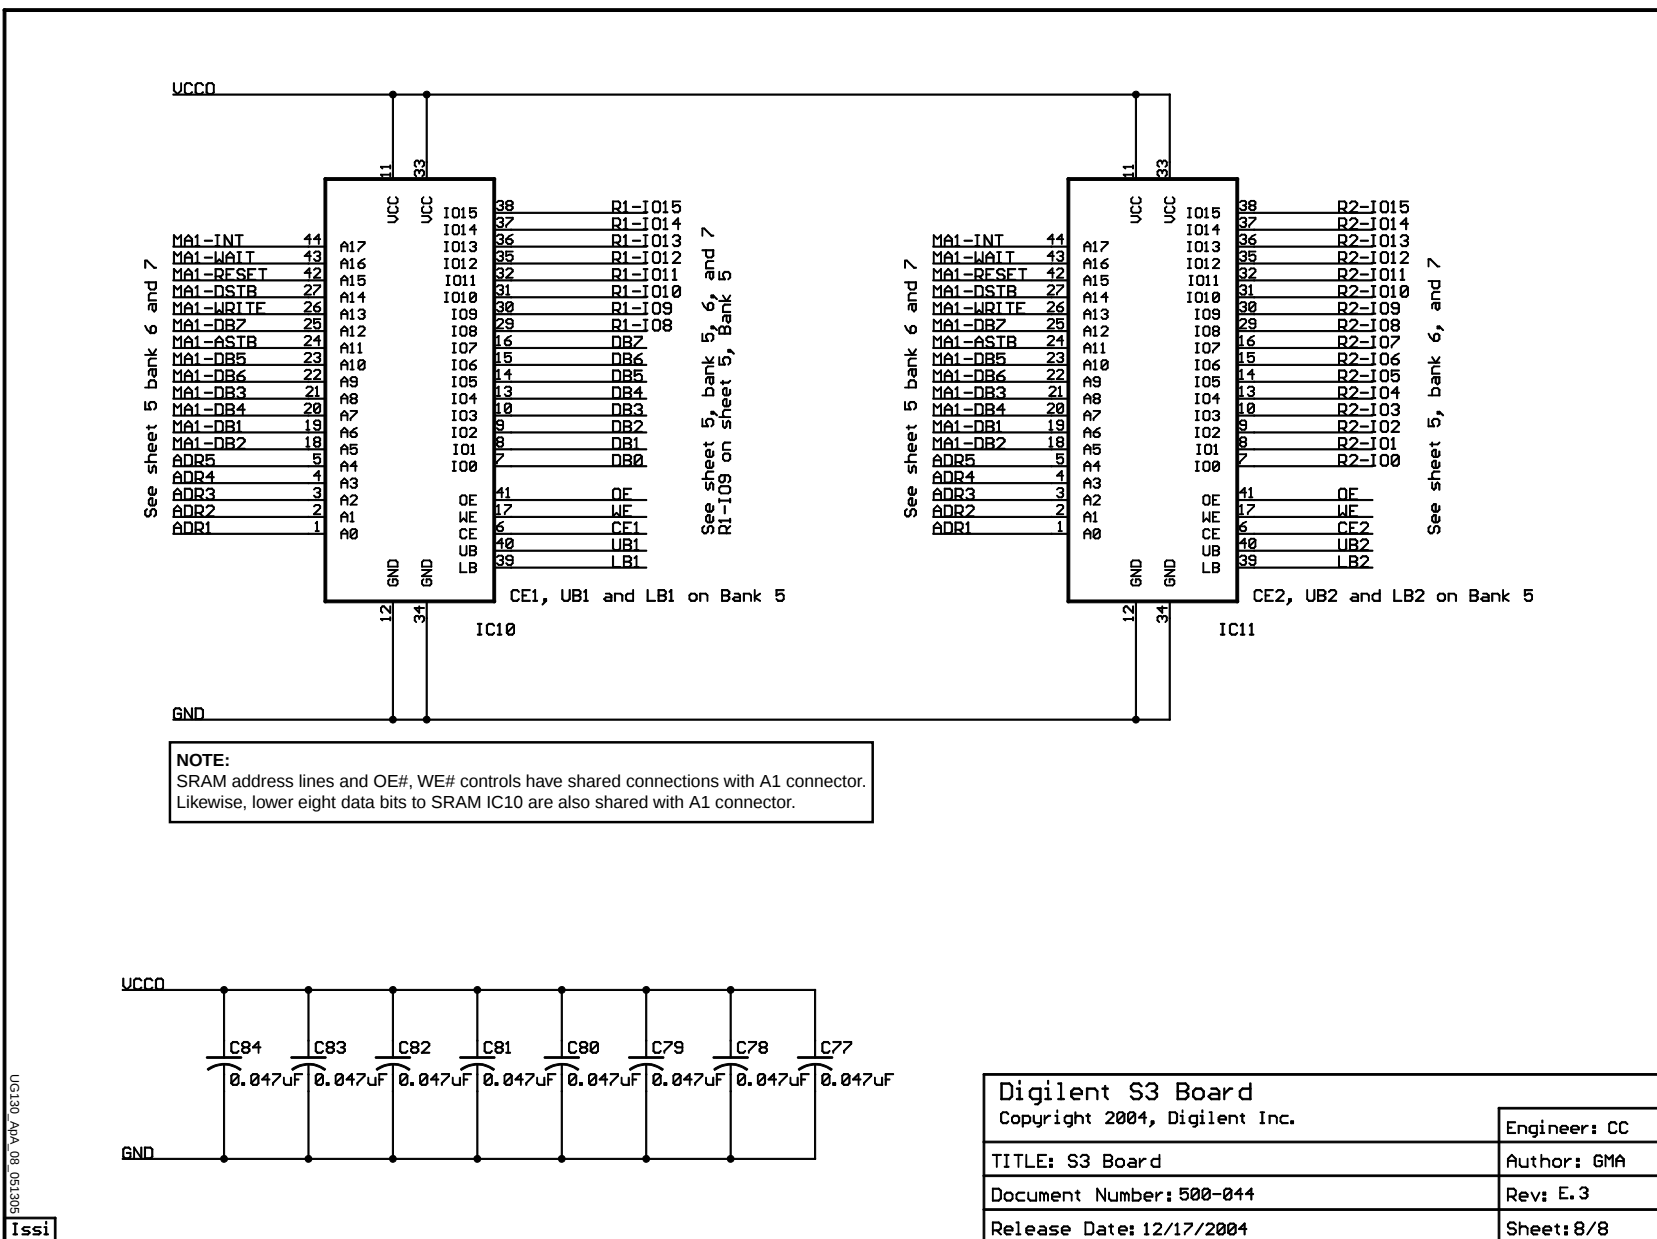

Figure A-9: Diligent JTAG3 Low-Cost JTAG Download/Debug Cable
- Figure A-9, “Digilent JTAG3 Low-Cost JTAG Download/Debug Cable”